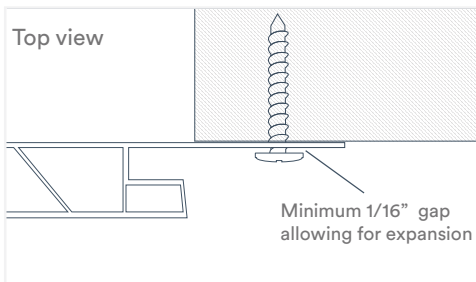

Fig. 4
- Allow a minimum of 1/16" (about the thickness of a dime) between the back of the fastener head and the screw flange (Fig. 4)